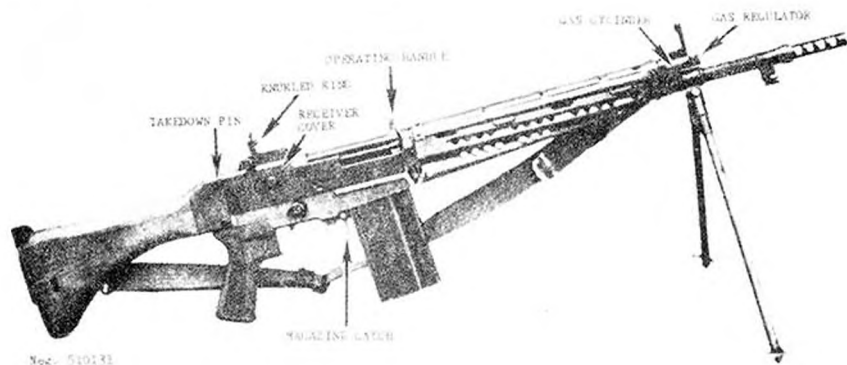

Figure 132. Japanese Type 64 rifle.
a. The 7.62-mm Type 64 rifle (fig 132) was developed in Japan. It is the standard rifle of the Japanese Ground Self-Defense Force but is used by no other country.
b. The gas regulator (fig 132) has three settings. The lower is used for firing full-powered 7.62-mm NATO cartridges; the mid setting is used for firing violet-tipped Japanese reduced-power cartridges, or to give increased power when firing 7.62 NATO cartridges in a fouled rifle. The upper setting is used when firing violet-tipped cartridges in a fouled rifle. Set the regulator by rotating it as necessary.
c. Adjust the rear sight for range by twisting the knurled ring on the rear sight (fig 132). Windage corrections can be made by rotating the windage knob.
d. Pull the operating handle (fig 132) fully rearward and release it. CAUTION: The rifle is now loaded and ready to fire. Pull out the selector and rotate it to the position desired (rearward
e. To unload or clear the Type 64, rotate the selector to its vertical or safe position, press the magazine catch (fig 132) toward the magazine and rock the magazine forward, out of the rifle. Pull the operating handle to the rear and inspect to insure that no cartridges are present. Release the operating handle, rotate the selector off safe, press the trigger and move the selector back on safe. Insert the magazine. If desired, fold the sights and bipod.
b. Pull the takedown pin (fig 132) to the right, then lift up the rear end of the receiver cover (fig 132) until the cover comes off. Pull the driving spring out of the bolt carrier, then pull the carrier (fig 132) to the rear until it can be lifted out of the receiver. Lift the bolt out of the receiver.
a. The Type 64 rifle is gas operated. When the weapon is fired, some of the propellant gases are tapped off through the gas port as the bullet passes the port and enters the gas cylinder (fig 132). The gases drive the piston rearward, and the rear end of the piston strikes the bolt carrier and drives it rearward. The piston's spring has been compressed and now returns the piston forward.